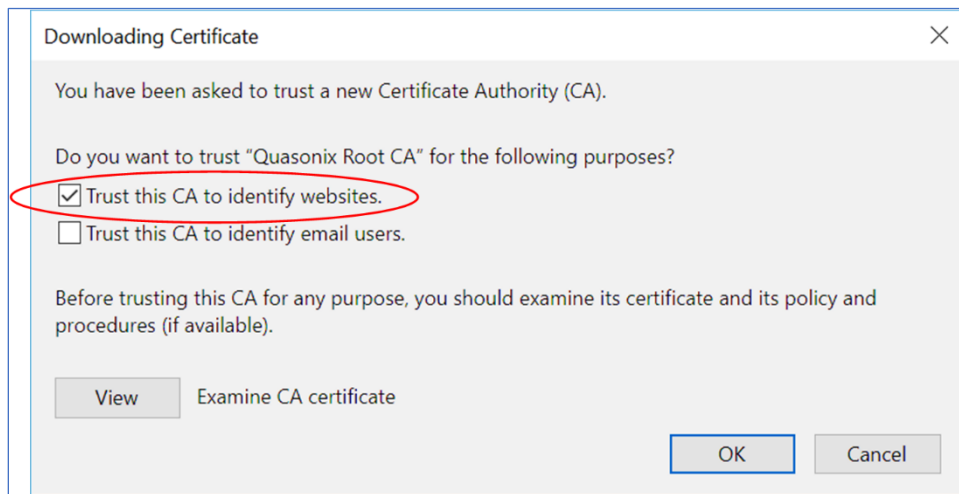

Figure 327: Firefox Downloading Certificate Window
7. The Downloading Certificate window displays, as shown in Figure 327.